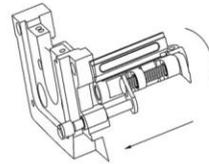

图10 (Fig.10)
- 2.在穿勾线时,将勾线座引出轴沿箭头方向拉出使勾线座向前弹出,然后进行穿线。(图10)
- 2.For looper threading ,pull out the lever of looper set the arron then thread properly .cause thread brake 、 uneven stitches or skip stitches. (Fig.10)